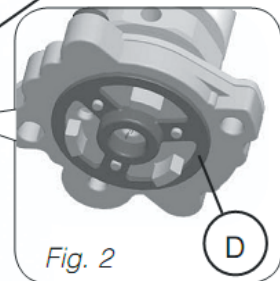

Fig. 2
- 3** Ensure the rubber gasket (D), which is prefitted as part of assembly (E), is properly positioned, see Fig. 2, otherwise fit the gasket as shown Fig. 2.